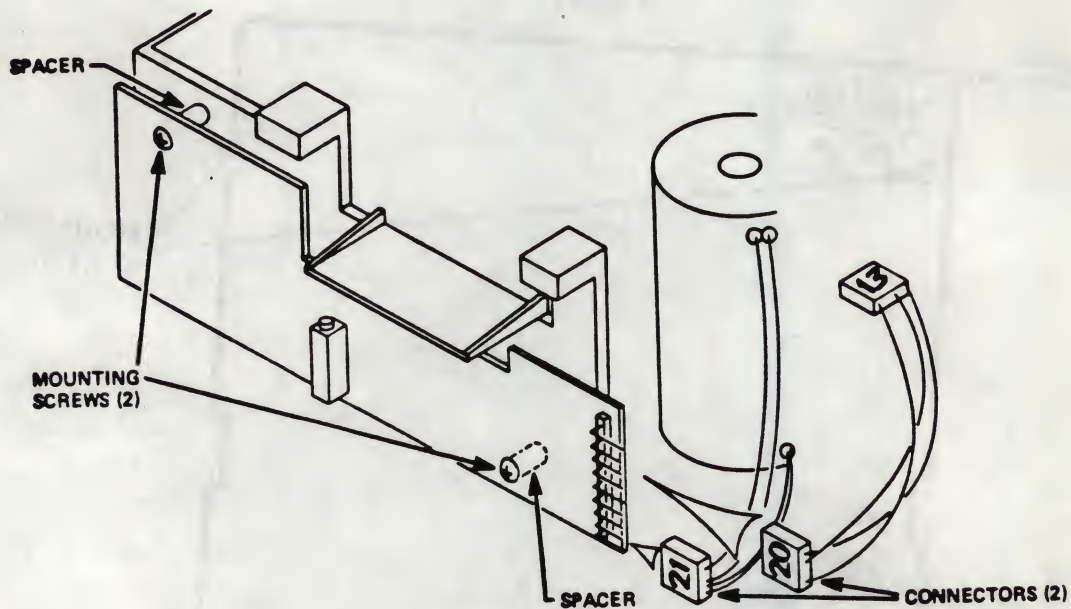

Figure 5-3
5.3.1 Detach connectors P20 and P21 from the Servo PCBA (see Figure 5-3), located at the back of the disk drive.
- 5.3.8** Plug Connectors P20 and P21 into their proper slots on the Servo PCBA — P20 on the top and P21 on the bottom — see Figure 5-3.